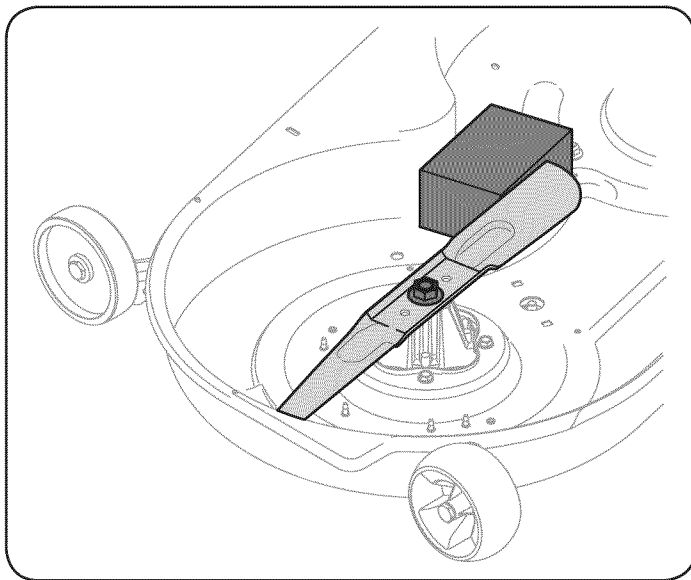

Figure 28
2. Place a block of wood between the deck housing baffle and the cutting blade to act as a stabilizer. See Figure 28.
3. Remove the hex flange nut that secures the blade to the spindle assembly. See Figure 28.